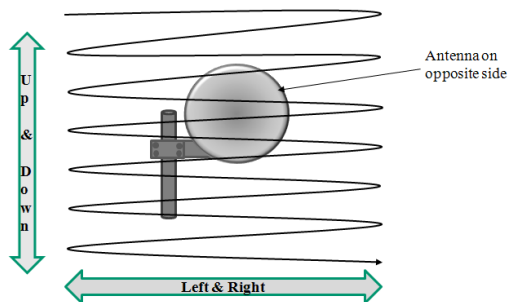

Figure 5-16: Antenna alignment scan
8. Turn the Azimuth and Elevation Adjustment Screws at each antenna left/right for best azimuth alignment and up/down for best elevation alignment and observe the voltmeter reading. The goal is to find the maximum RSSI voltage reading on both sides of the link. Using a meander-like scan pattern has proven to be the most efficient way to align the antennas. This is illustrated in Fig. 5-16.